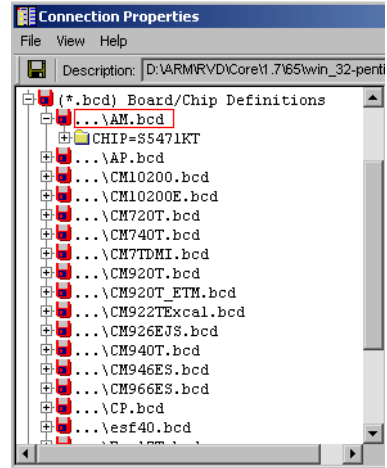

Figure 3-15 Viewing the new group in the .bcd file
6. Expand the .bcd file group to see the new CHIP=S5471KT group, shown in Figure 3-15 on page 3-24.